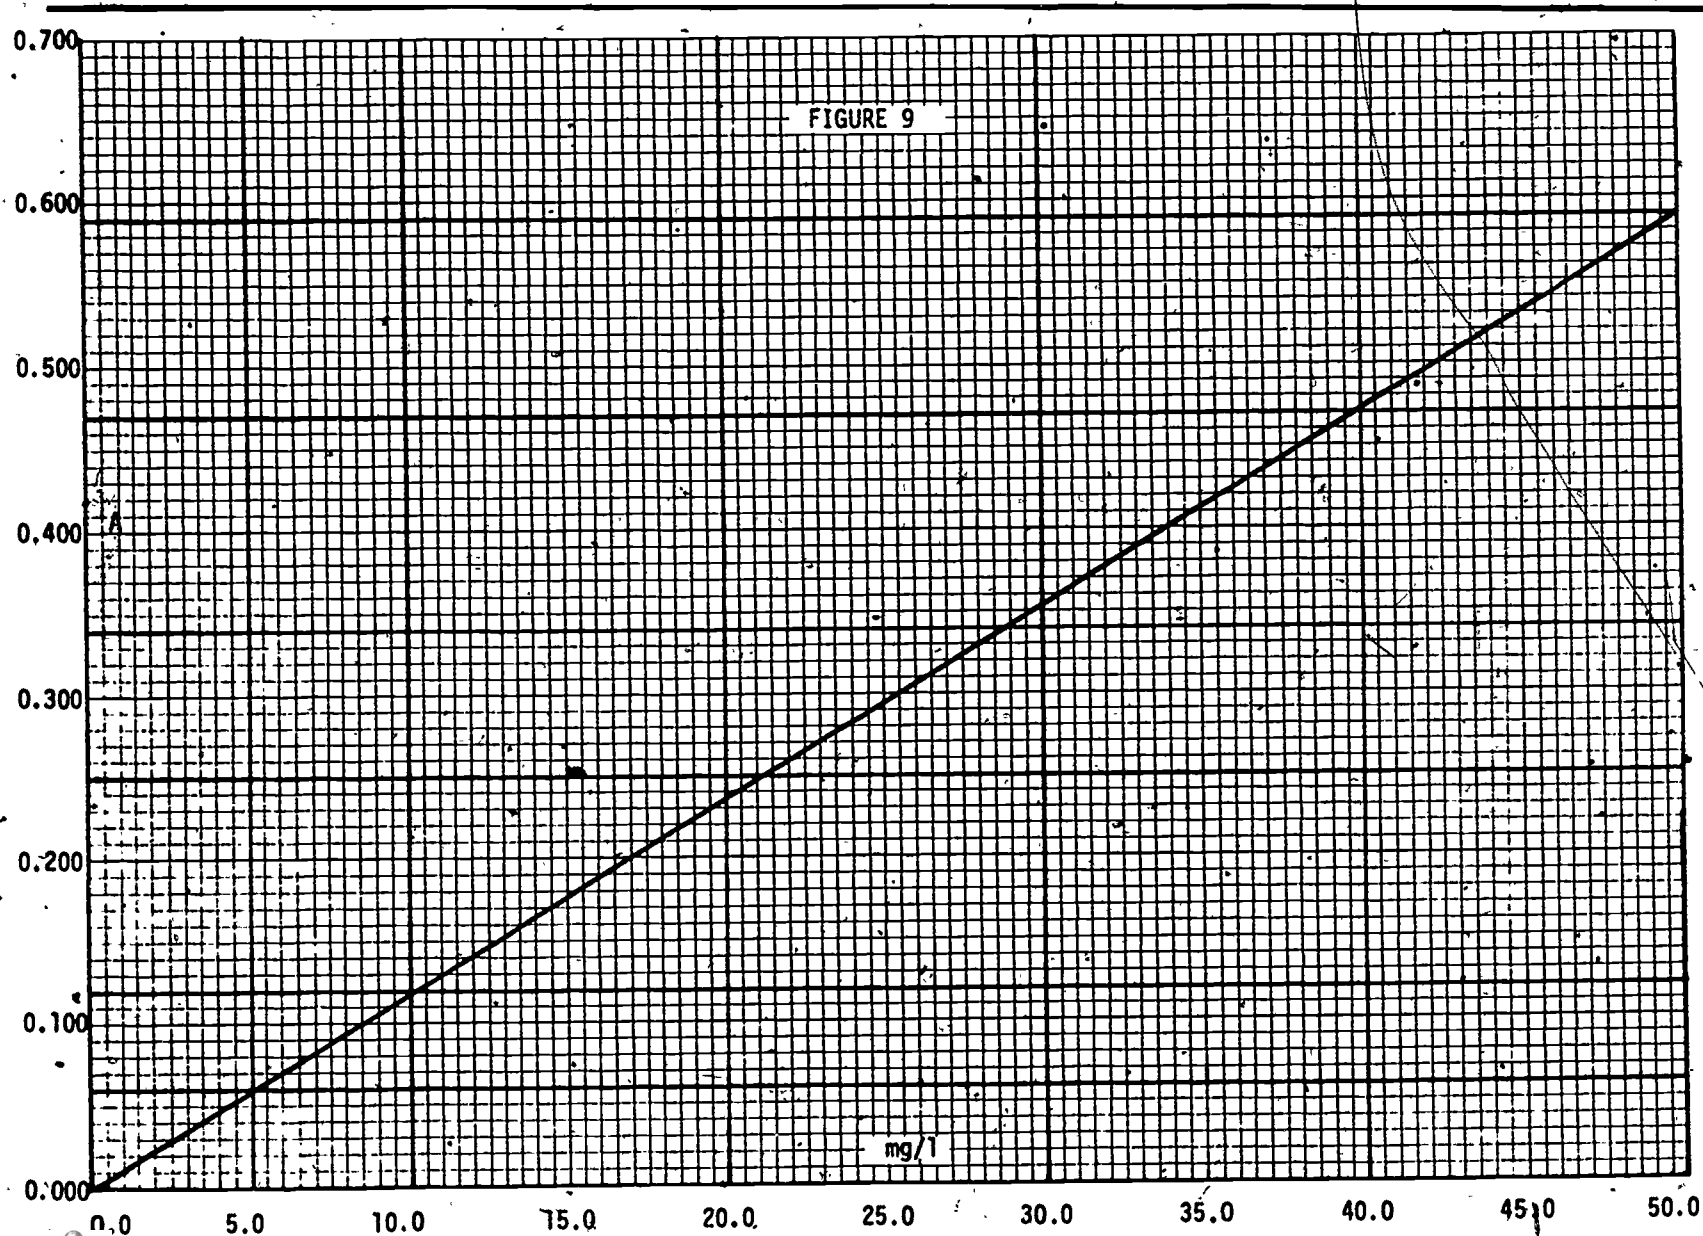

FIGURE 10
1. It should now look like figure 10.